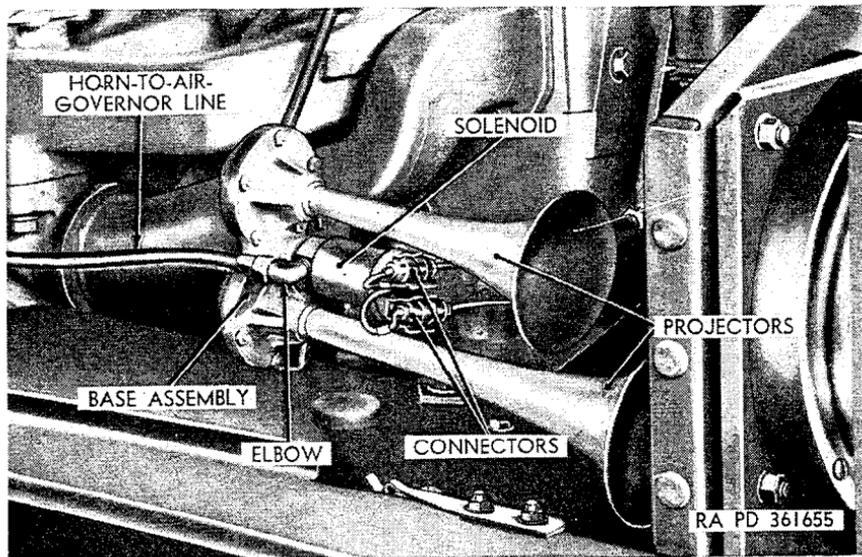

Figure 193. Horn installed on right front fender (solenoid without mounting brackets).
c. *Solenoid Removal (Type Without Mounting Brackets)* (fig. 193).
- (1) Remove two bayonet-type connectors from clips on front of solenoid, and disconnect both connectors.
- (2) Unscrew connector securing horn-to-air-governor line to elbow at base of solenoid, and remove line from elbow.
- (3) Unscrew elbow from base of solenoid.
- (4) Loosen locknut on threaded section of solenoid base, and unscrew solenoid from horn base assembly.
d. *Solenoid Installation (Type Without Mounting Brackets)* (fig. 193).
- (1) Screw threaded end of solenoid into threaded hole in horn base assembly, and tighten locknut.
- (2) Install elbow in base of solenoid.
- (3) Position horn-to-air-governor line at elbow, and tighten connector.
- (4) Connect bayonet-type connectors on the two solenoid cables to wiring harness connectors, and secure connectors in clips on front of solenoid.